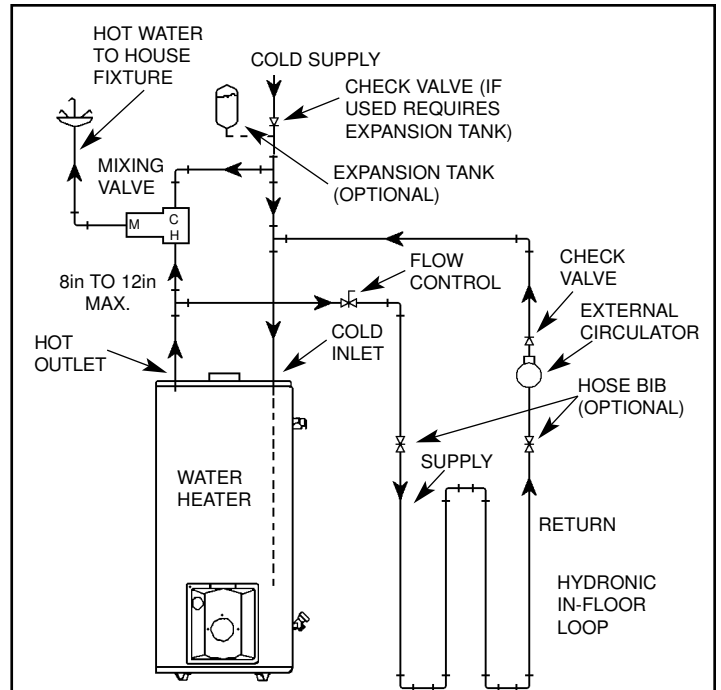

Figure 15 COMBO HEATING - IN-FLOOR LOOP
2. A hydronic baseboard (finned tube) loop (Figure 15).